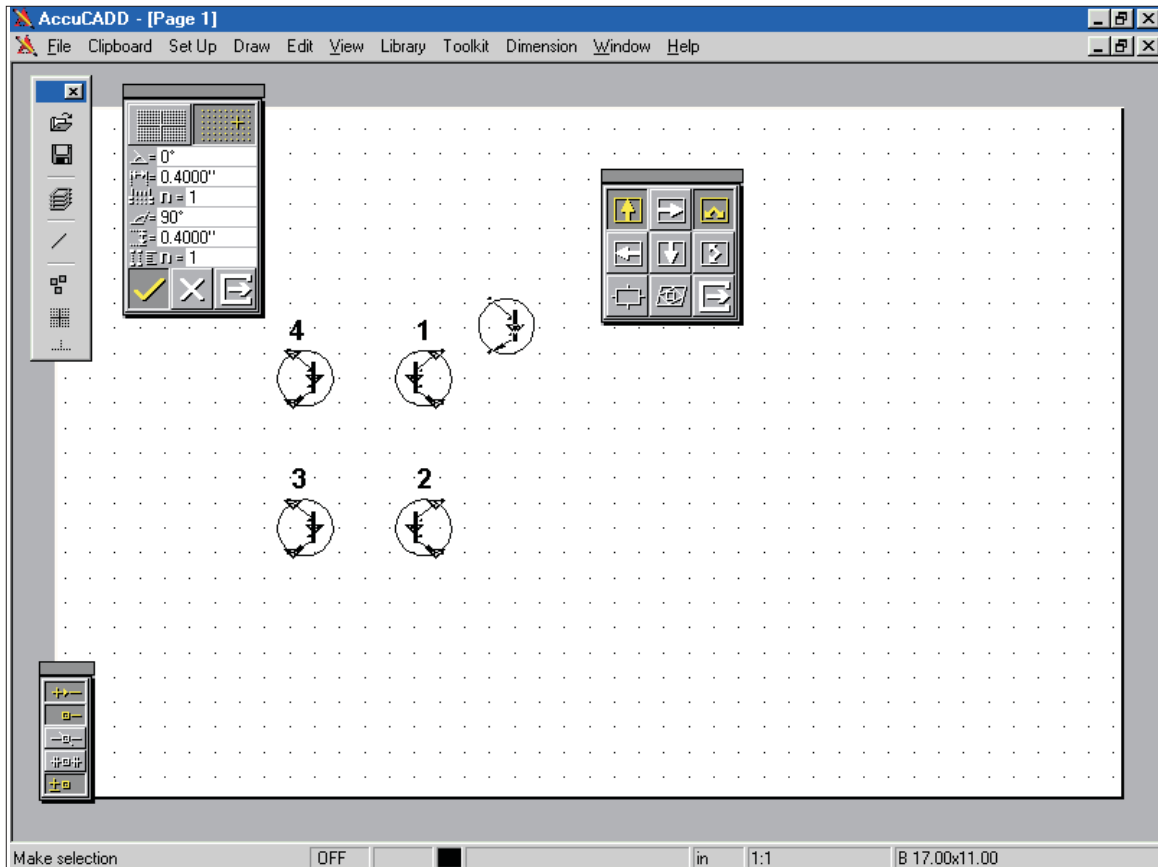

Figure 47: Starting a schematic
- Select Drag Insert, then acquire the transistor from the library. Plant transistors 1 and 2, Figure 47.
- Still in the drag mode, “flip” the insert about the vertical (Y) axis by touching the icon highlighted in Figure 47. (The other icon with two arrows is for X axis flip). Plant transistors 3 and 4.